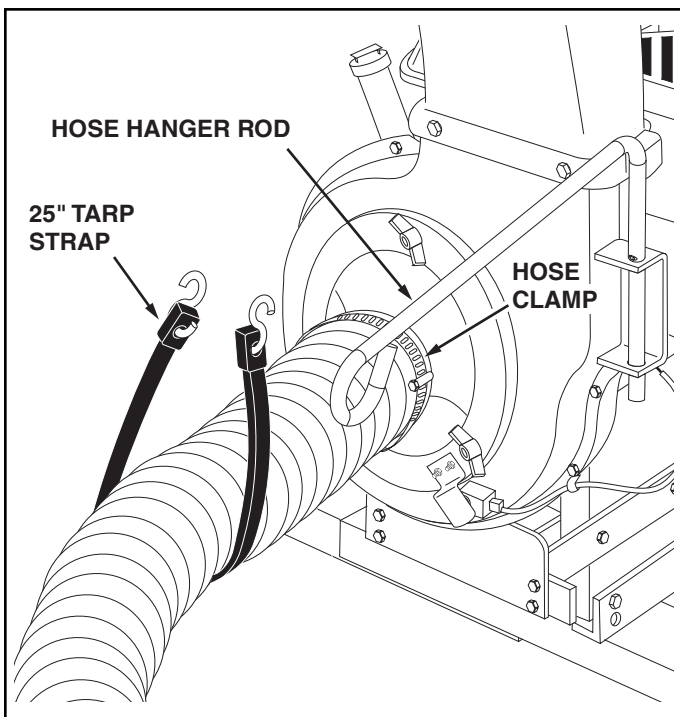

FIGURE 19
- Place a hose clamp onto one end of hose. Push hose onto hose adapter (nozzle). Tighten hose clamp onto hose and hose adapter. **Do not** collapse hose adapter when tightening clamp. See figure 19
- Place the hose hanger rod into the hose hanger bracket on the impeller housing assembly. See figure 19.
- Loop the 25" tarp strap under the hose. Hook to the hose hanger rod. See figure 19.